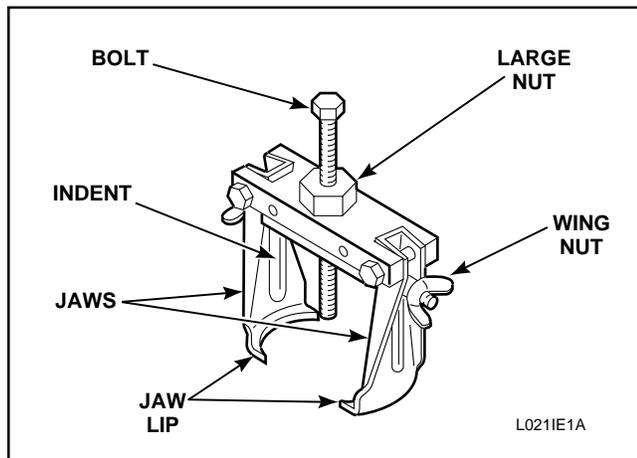

Figure 24
- Back bolt out of 294P4 Drive Bell Tool approximately one third of the way, *Figure 24*.